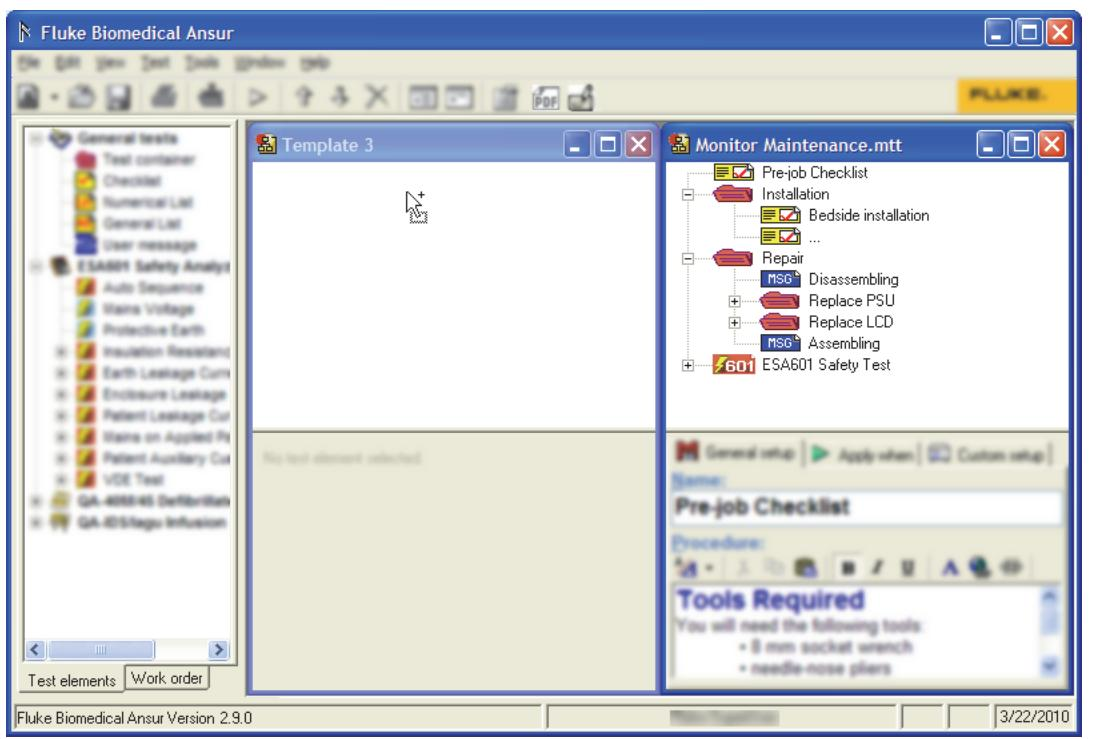

Figure 3-54. Copying Tests Between Templates
4. Click a test in one template, hold down the mouse button and drag it across to the other template. When hovering above the other template, the cursor changes to a "copy" cursor as shown in Figure 3-54.